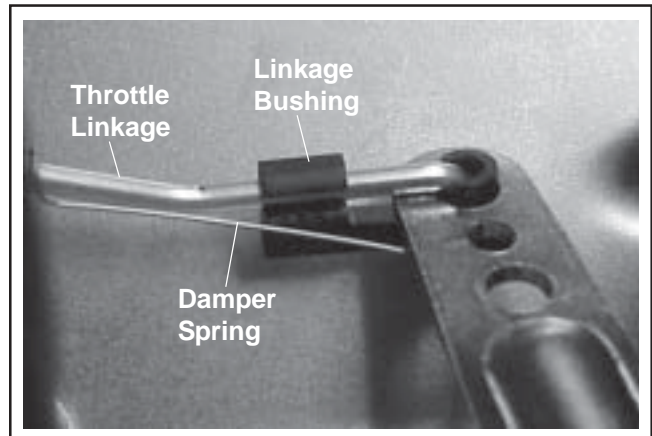

Figure 5B-34. Throttle Linkage/Governor Lever Connection.
2. Check if the engine has a high-speed throttle stop screw installed in the manifold casting boss. See Figure 5B-35.